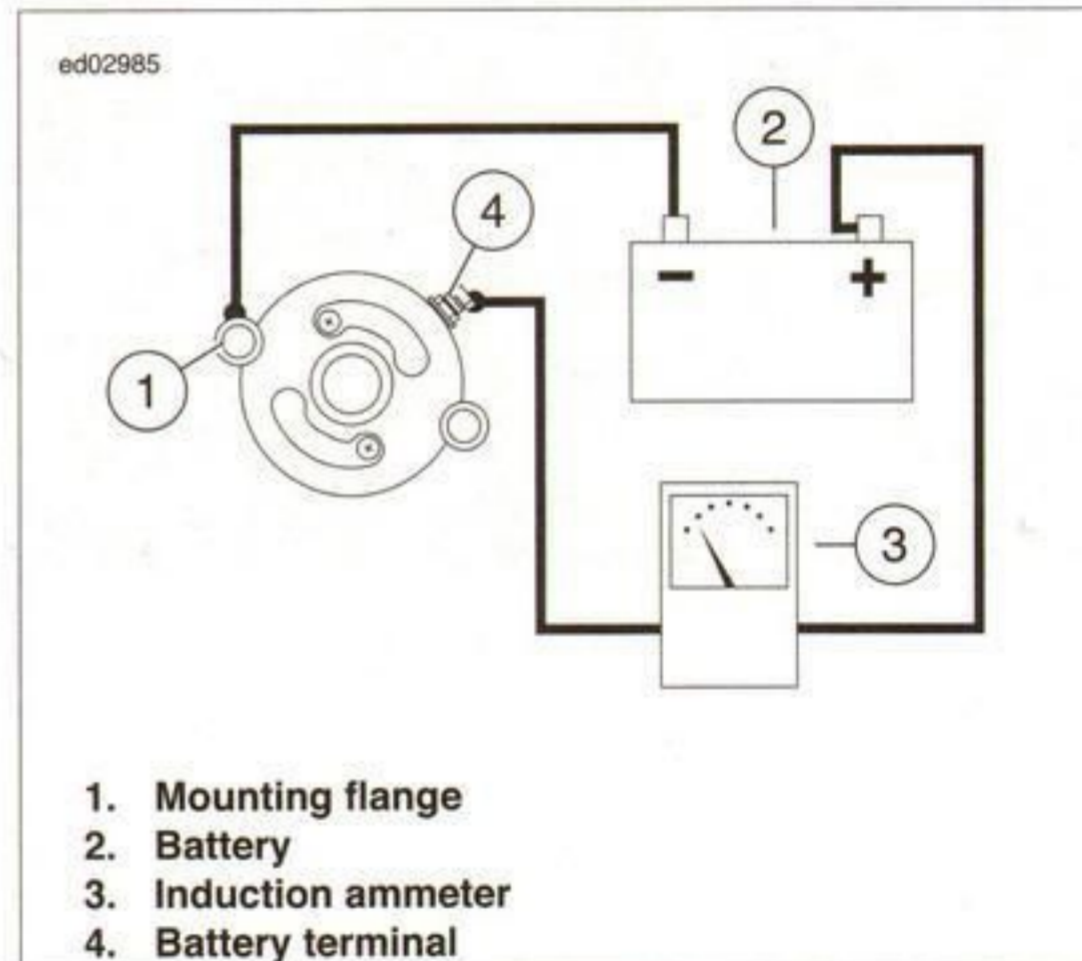

Figure 3-10. Free Running Current Draw Test
2. See Figure 3-10, attach one heavy jumper cable (6 gauge minimum) as follows: